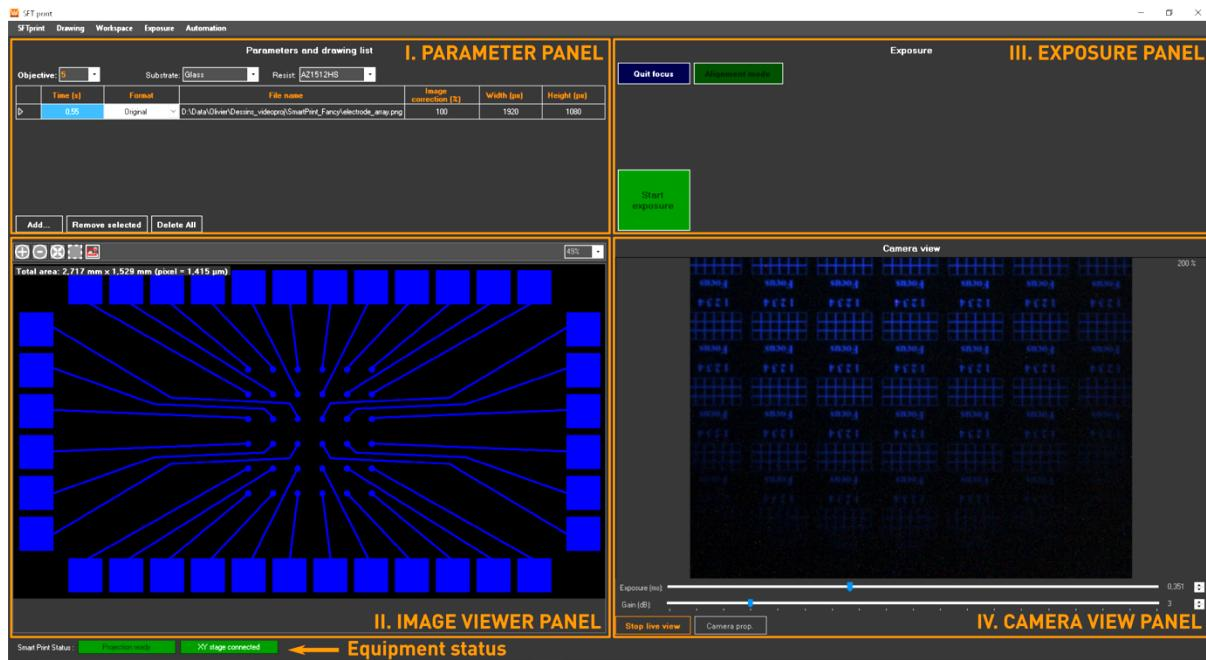
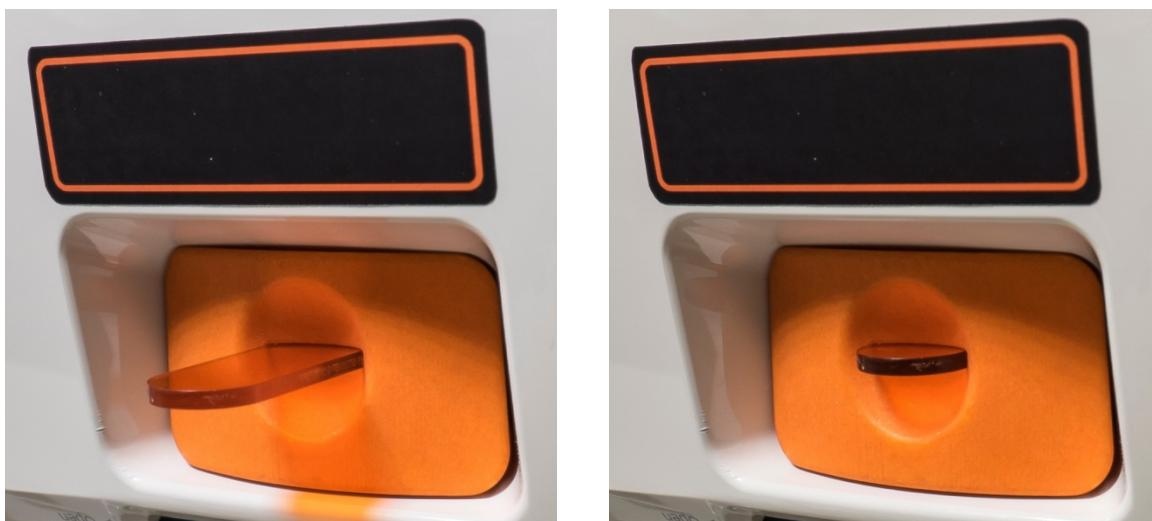

Figure 9 – SFTprint main window
Figure 13 - Left: filter unloaded. Right: filter loaded
- On the panel **exposure list and parameters** (Figure 9), choose your objective, substrate and resist from the corresponding drop-down lists (Figure 11)
- Click on **Focus Mode** in the **Exposure** panel (Figure 9). Ensure that the protection filter is unloaded (Figure 13)
- Load the sample to be exposed, click on **EXPOSE SELECTED DRAWING** (Figure 9) in the **Exposure** panel
To enable the protection, gently push the orange transparent strip up to the end (Figure 13 right). The strip may slightly illuminate. To remove the protection and allow exposure or focusing under blue illumination, gently pull the strip up to encounter a resistance.
- In the **Parameters and drawing list** panel (Figure 9), choose an objective, a resist and a substrate in the corresponding dropdown lists (Figure 11)
When an overlap is configurated and a compatible drawing selected the equipment status (Figure 9) is updated as shown below:
- Pull the protection filter to its unload position (Figure 13)
- Push the protection filter to its load position (Figure 13)